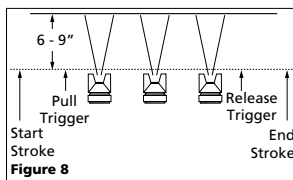

Figure 8
2. "Trigger" the gun properly. Start the gun moving at the beginning of the stroke BEFORE SQUEEZING THE TRIGGER and release the trigger BEFORE STOPPING GUN MOVEMENT at the end of the stroke. This procedure will "feather" (blend) each stroke with the next without showing overlap or unevenness (See Figure 8).